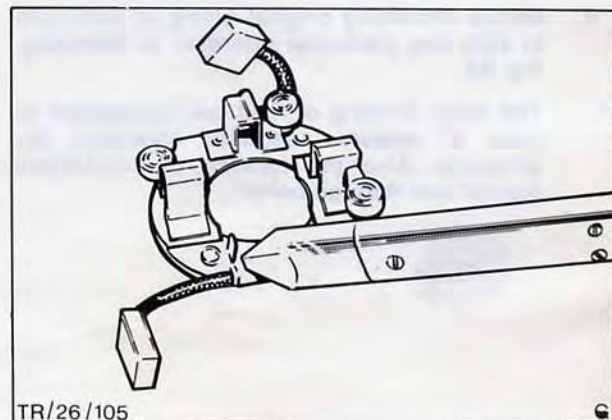

Fig. 61. Using soldering iron to solder new brush lead into place
6. Using a wire hook pull back brush springs and slide brushes out of their holders. Remove yoke from drive end cover and armature. To renew earthed brushes place a hot soldering iron on rolled over contact holding brush flexible joint. When solder is molten, using a small screwdriver, prise up metal sufficiently to allow removal of old brush lead. Insert new brush lead and solder it in place, Fig. 61.